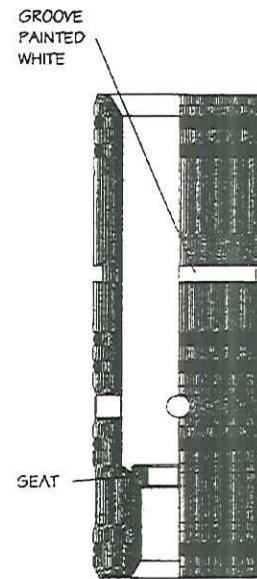

Figure 13a. Test Sub gate showing a white groove used as a reference for re-assembly
4. Remove the O-rings from the gate. Clean the gate and install new O-rings. Verify the groove in the OD of the gate is painted white. The white groove is used as a reference for gate installation. Refer to **Figure 13a**.